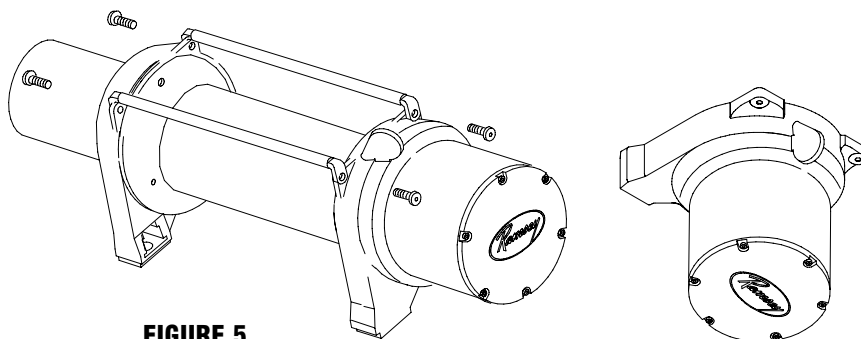

FIGURE 5
1. Position winch as shown in Figure 5. Remove screws from tiebars. You may be able to loosen the screws at the motor end without removing them. Pull the Gear Housing assembly from the drum and shaft and set it down on the work bench with the Gear Housing Cover up. Remove the drum bushing from the Gear Housing assembly or the end of the drum. Set aside.
2. Remove (6) capscrews from the Gear Housing Cover. Holding the Gear Housing Cover over the Gear Housing assembly, flip it over and set it on the workbench.